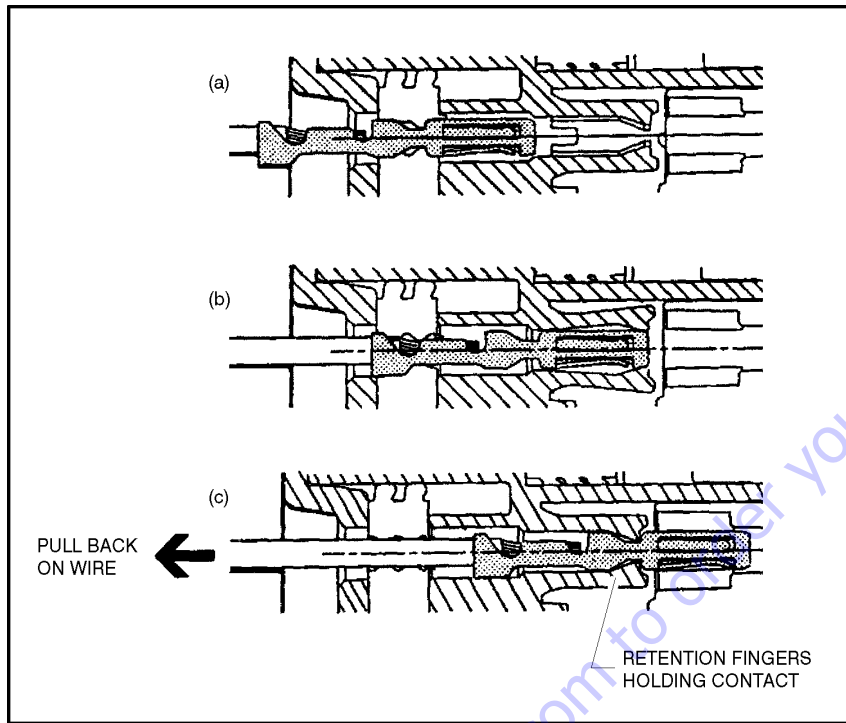

Figure 7-7. Connector Assembly Figure 2
1. To insert a contact, push it straight into the appropriate circuit cavity as far as it will go (See Figure 7-7.).
2. Pull back on the contact wire with a force of 1 or 2 lb to be sure the retention fingers are holding the contact (See Figure 7-7.).